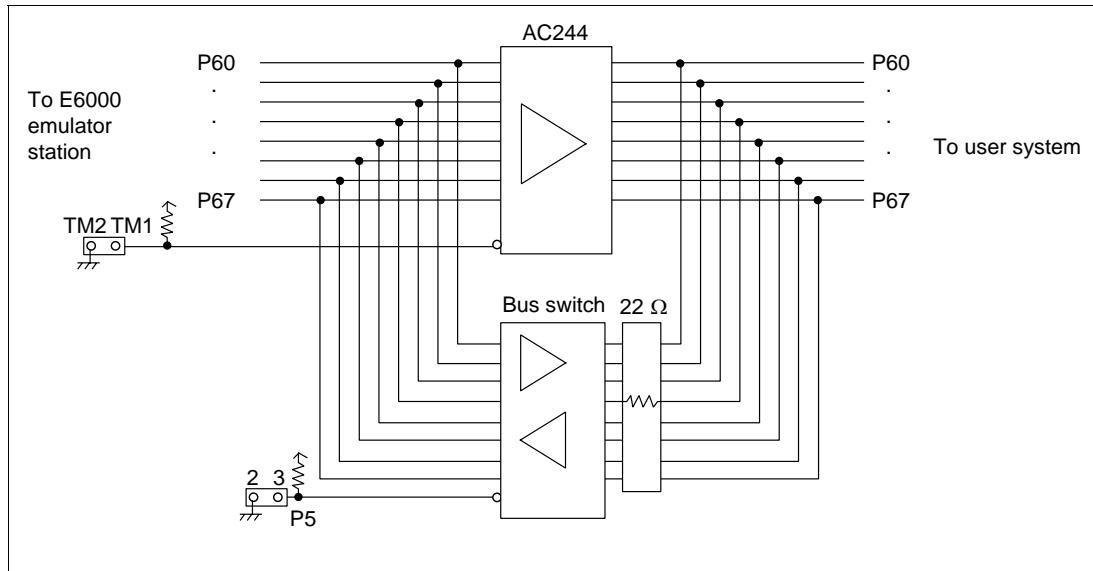

Figure 8 P60 to P67 Interface Circuit
4. The P60 to P67 pins are CMOS large-current ports in the MCU, but in the emulator, they are normal ports. However, when this user system interface cable is used, a large current of $I_{OL} = 10.0 \text{ mA (max.)}$ can be output from the ports by setting the jumpers shown in figure 8. Note that when the jumpers are set to the large-current mode, the P60 to P67 pins become output ports. Be sure to close only one of the jumpers; do not close both jumpers. Do not insert these two jumpers at the same time.